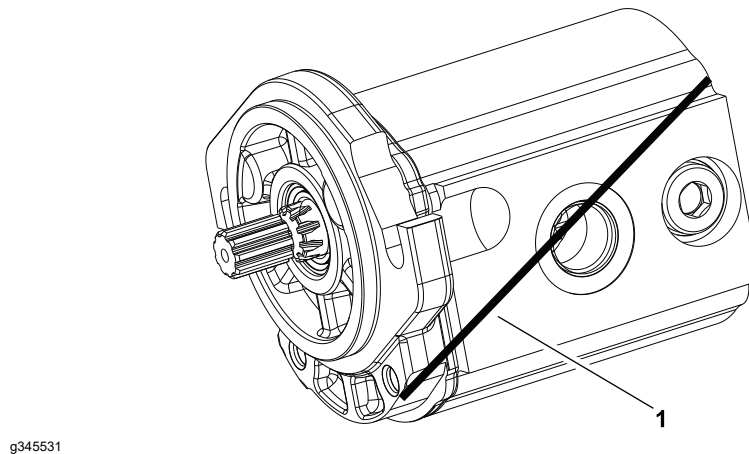

Figure 85
2. Use a marker to make a diagonal line across the front flange, body and rear cover for assembly purposes (Figure 85).